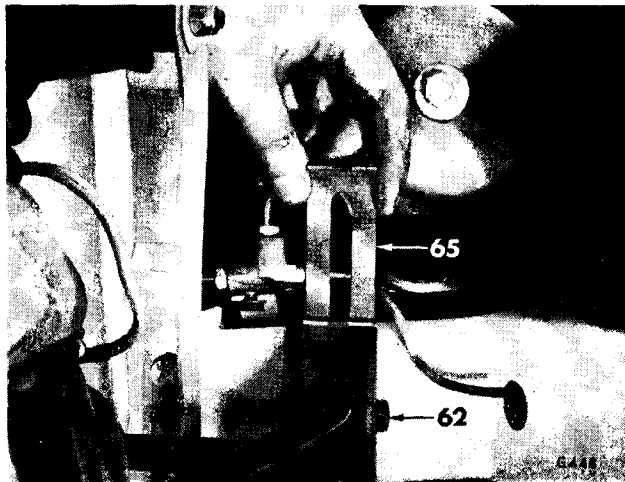

Fig. 14. Suspension shims
2. Remove the damper bolt (59) and trunion bolt (58).
3. Remove two nuts (66), note quantity and position of shims.
5. Remove two fulcrum bolts (62) (Fig. 14).
7. Renew the rubber fulcrum bushes (61) if necessary.
Reverse the above procedure, taking care to replace the shims (65) (Fig. 14) in their original positions.